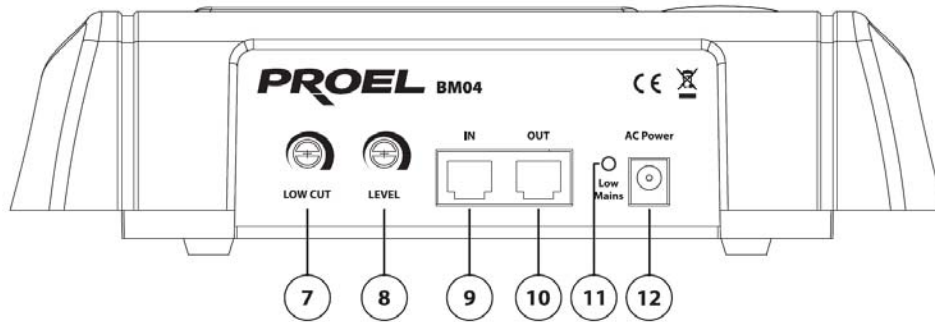

fig.2
NB – ZONE8 has been designed to ensure a direct microphone call station power supply. But for long flow (over 200/250 meters) the power supply levels falling makes necessary and inevitable to apply to a local source for call microphone stations power supply purposes and schedule to use The optional (to be purchased separately) BMPWS (230Vac/12Vac 50/60Hz – 500mA). Such system status is highlighted when led indicator lights (**fig.2-ref.11**).